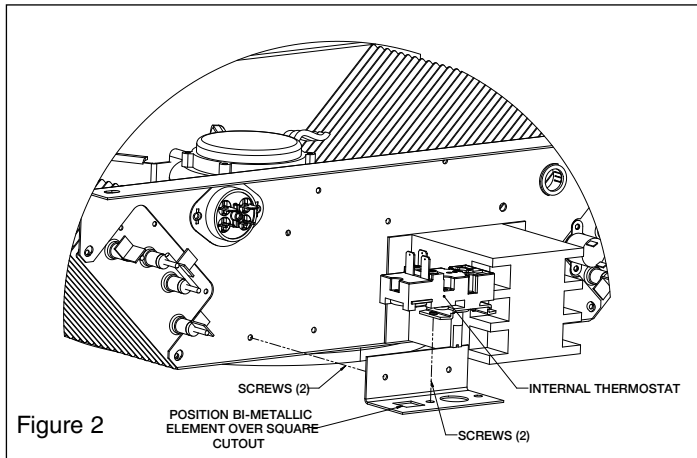

Figure 2
1. Install the Internal Thermostat in the heater as shown in Figure 2.